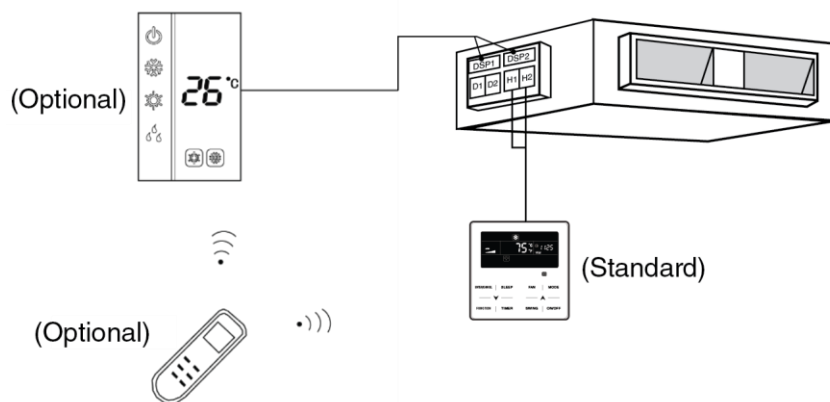

Fig. 31
7) Fig. 31 shows the installation of the remote controller.
8) The wired controller and the receiving light board can be installed at the same time. When operating through a remote controller, both the wired controller and the receiving light board can receive the signals, as shown in Fig. 31.